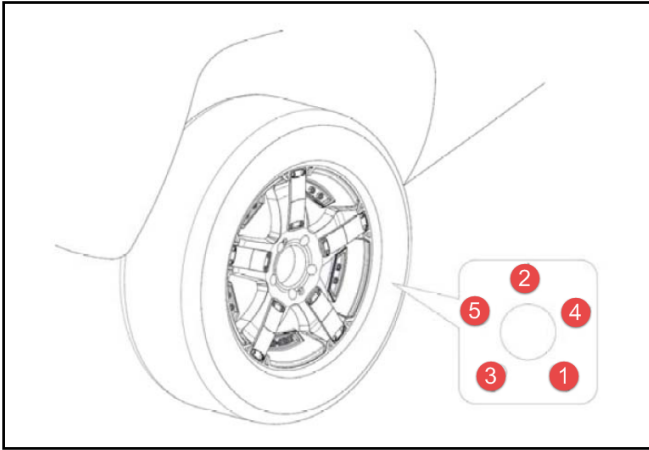

Figure 9
- a. Install wheel/tire assembly on vehicle. Hand start the lugnuts during installation. Tighten lugnuts in sequence 1 through 5. Ensure that the socket does not scuff the wheel. Tighten using a torque wrench. Figure 9.